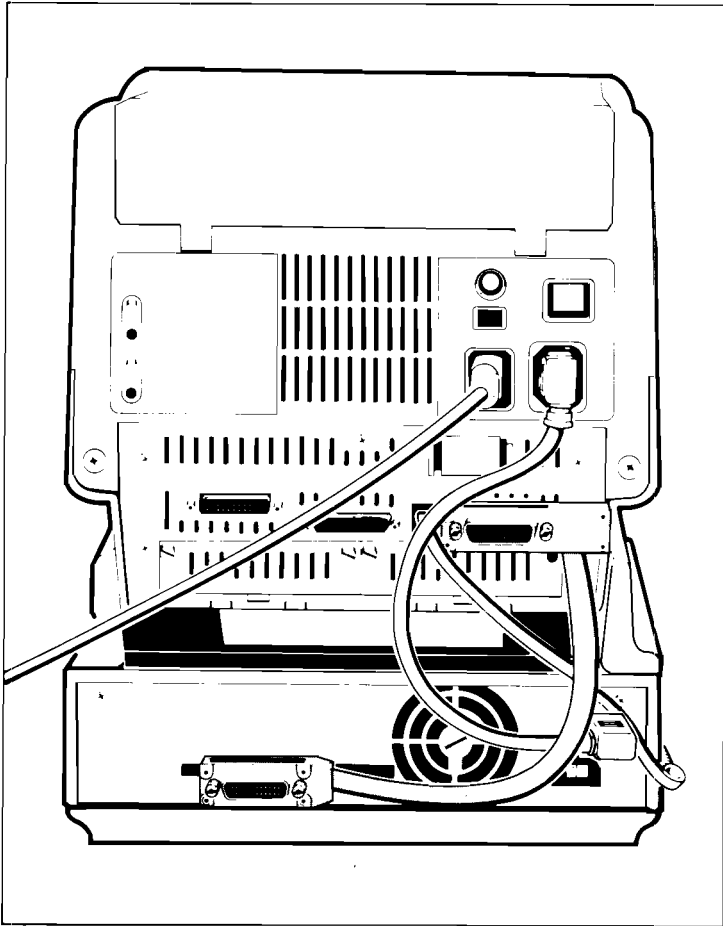

Figure 4: HP-IB cable connecting your computer and disc drive.
- Figure 4 illustrates the appearance of the HP-IB cable with an HP150 computer. If you have a different computer, the HP-IB connection on your computer may be in a different position.